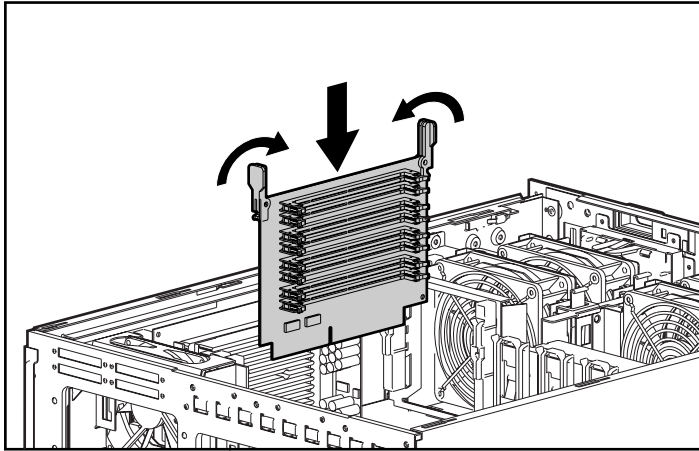

Figure 4-7. Installing memory board
3. Install the memory board as shown in Figure 4-7.